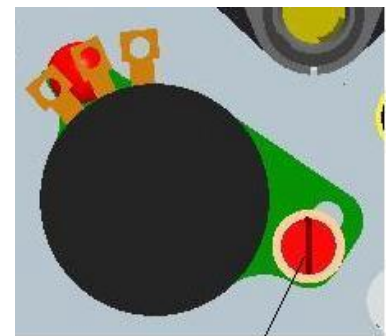

Fig.4 12
3.2 Adjustment of resistant transmitter (Fig.4)